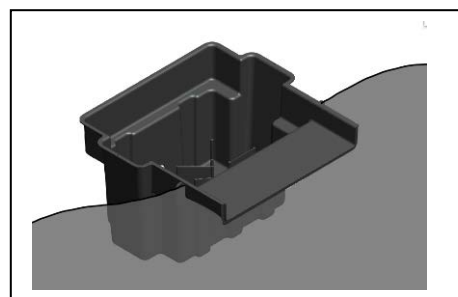

Fig. 6
- Align the liner on the flange of tank, make sure the liner sit flat on the flange of tank without wrinkling or pulling. Fig. 6